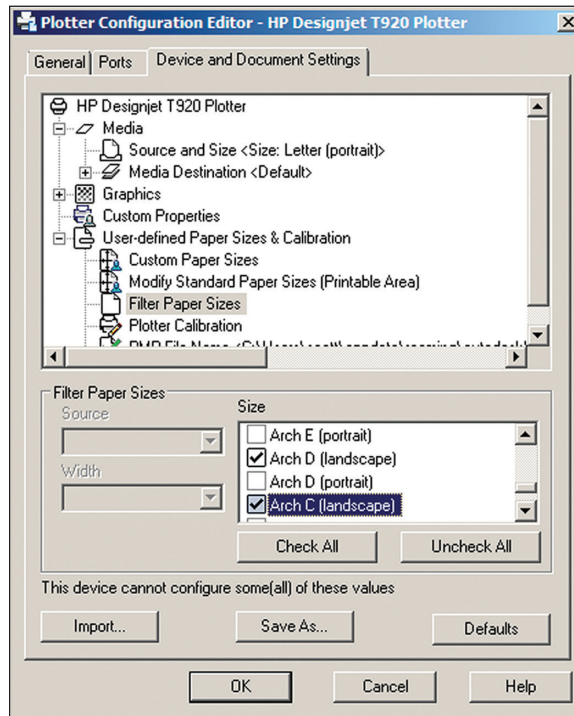

FIGURE 14.2 Filtering out all unused paper sizes
8. Select the Device And Document Settings tab and then select the Filter Paper Sizes node in the Plotter Configuration Editor dialog box. Click the Uncheck All button. Scroll down the list and select the following paper sizes: Arch C (landscape) and Arch D (landscape). Figure 14.2 shows the result.